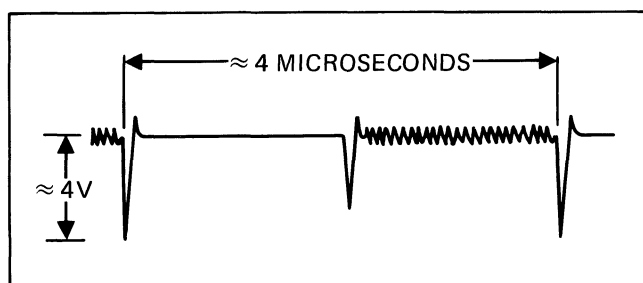

Figure 4-10. Chopper Amplifier Adjustment Waveform
9. The waveform on the oscilloscope should appear as in Figure 4-10.
10. On the Chopper Amplifier, adjust R43 counter-clockwise (CCW) until the noise in both sections of the waveform is about equal. Then adjust R43 clockwise (CW) until the noise dies to zero in the previously quiet region. Adjust R43 at least 1/3 turn clockwise (CW) from this point.
11. On the Chopper Amplifier, adjust R34 (Chopper Compensation Adjustment) (See Figure 4-10) until the amplitude of the negative spike leading the noisy region is no greater than 3/4 (but at least 1/2) of the amplitude of the negative spike leading the quiet region. If there is insufficient range of adjustment in R34, add or remove the jumper across R33 as required.
7. The waveform on the oscilloscope should appear as in Figure 4-10.